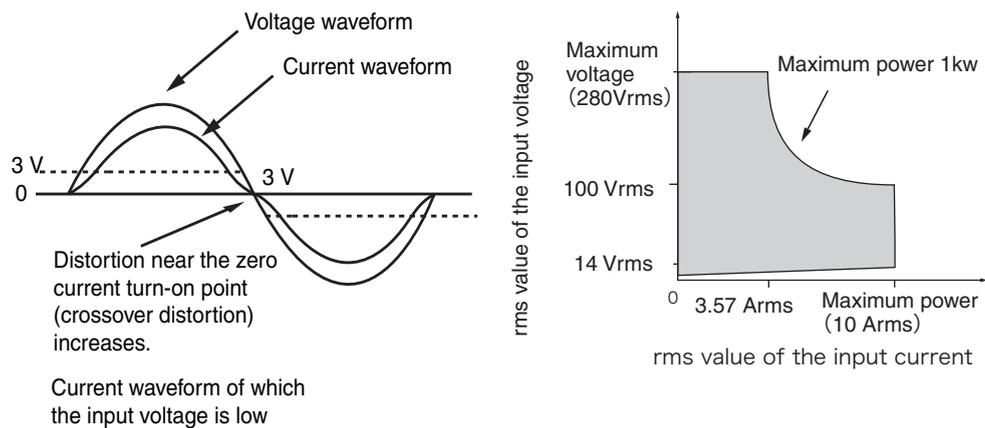
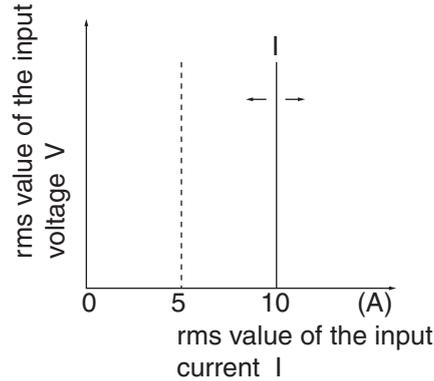
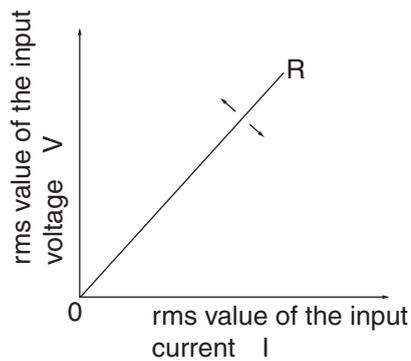
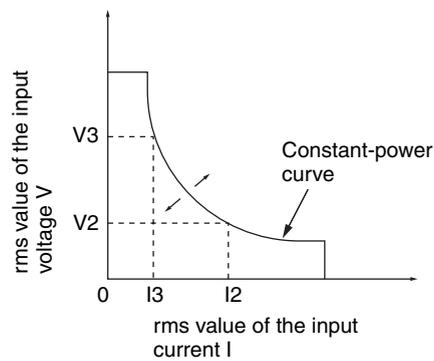

Fig.A-1 Operating Range
Fig.A-4 CC Mode
Fig.A-6 CR Mode
Fig.A-8 CP Mode
The PCZ1000A operates as a constant-current load as shown in Fig.A-4 within the operating range shown in Fig.A-1. The RMS value of the input current (I) is maintained at the specified value regardless of changes in the input voltage.
The PCZ1000A operates as a resistive load as shown in Fig.A-6, within the range shown in Fig.A-1. If the input voltage changes, the current flow changes accordingly based on the specified resistance R, such that  $\text{RMS input voltage} / \text{RMS input current} = \text{resistance}$ .
The PCZ1000A operates as a constant-power load, as shown in Fig.A-8 load within the range shown in Fig.A-1. If the RMS input voltage increases, the PCZ1000A reduces the RMS current flow accordingly to keep the apparent power ( $P = V \times I$ ) constant. In Fig.A-8,  $P = V_2 \times I_2 = V_3 \times I_3$ .